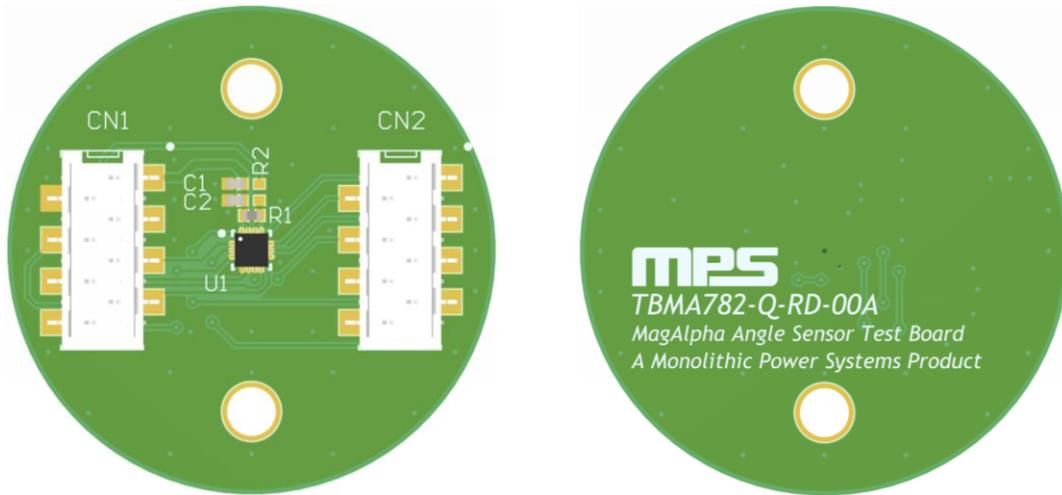

Figure 30: RD Board Overview Type 4
Figure 30 shows an overview of the Type 4 round (RD) board type.